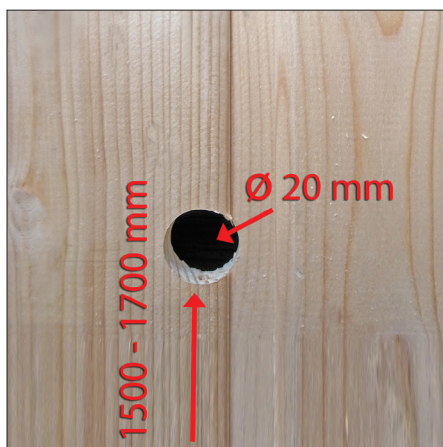

Fig. 1
- I. Drill a hole with a diameter of 20 mm at the position of the cable duct, at a height of approx. 1500 - 1700 mm (Fig. 1).